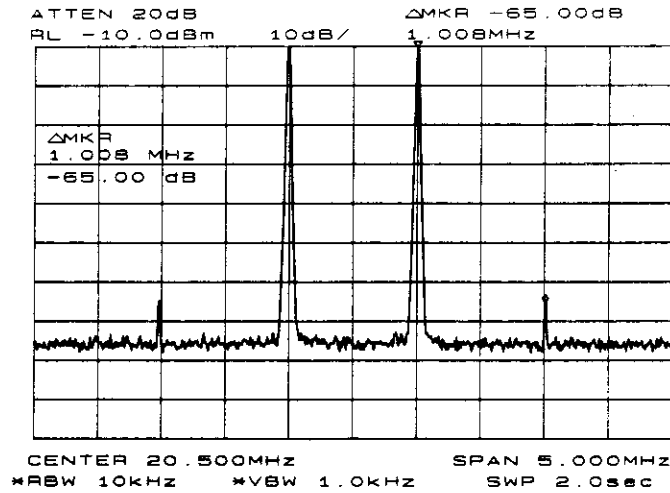

Figure 3-10. Intermodulation distortion measured in dBc.
4. For this type of measurement, distortion-free dynamic range is an important consideration. To maximize such dynamic range, set the mixer input level to  $-30$  dBm by pressing **AMPLITUDE**, **MORE 1 OF 3**, **MAX MXR LEVEL**, and enter  $-30$  dBm. The spectrum analyzer automatically sets the attenuation so that the maximum signal level is seen at the input mixer when the signal is at or below the reference level. (See Appendix G.) You will hear the input attenuator click; notice that the value of the attenuator is now 20 dB. See Figure 3-10.
5. Once a marker is activated, the marker-delta function activates a second marker and displays the difference between the two markers. Relative measurements can then be performed easily. To measure a distortion product, press **PEAK SEARCH** to place a marker on a source signal. To activate a second marker, press **MARKER DELTA** and **NEXT PK LEFT** or **NEXT PK RIGHT** to set the second marker on the peak of the distortion product that is beside the signal source, as in Figure 3-10. The difference in frequency and amplitude between the two markers is displayed in the active function block.